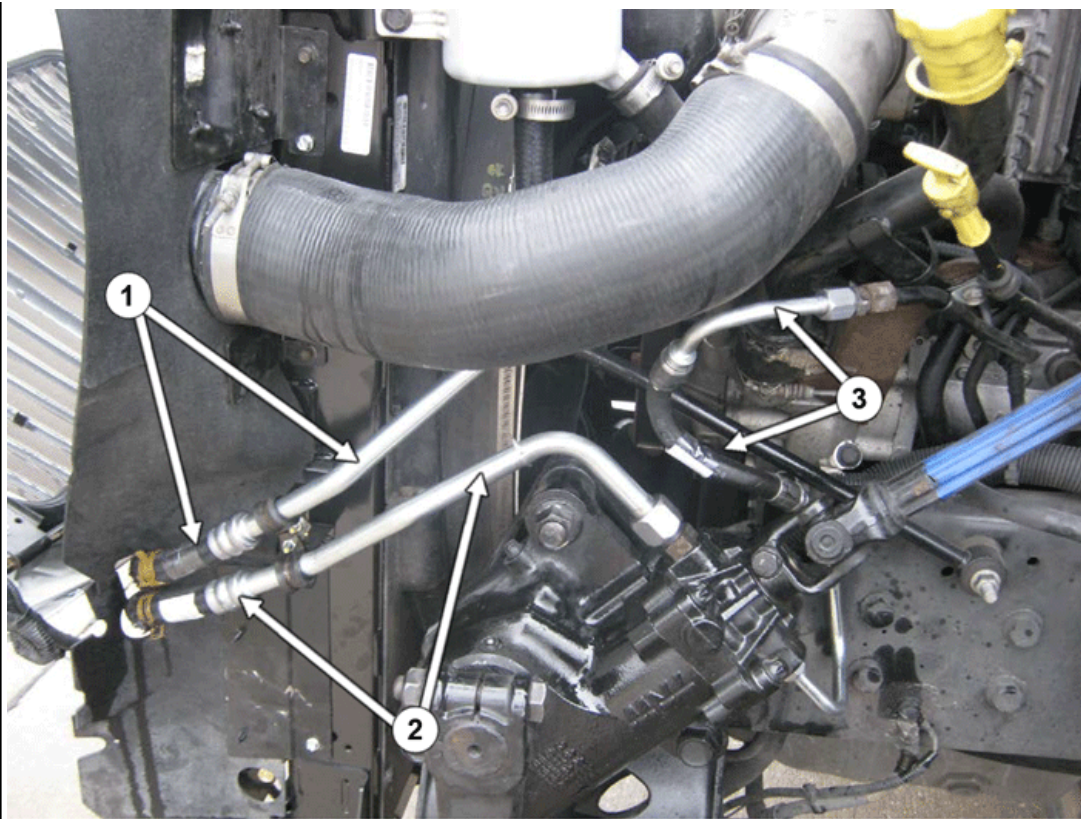

Figure 2
4. Install the new power steering cooler to reservoir line (3837758C2), and the gear to cooler line (3837750C4), onto the unit (Figure 2).
5. Install the new power steering pump to gear line onto the unit (Figure 2).